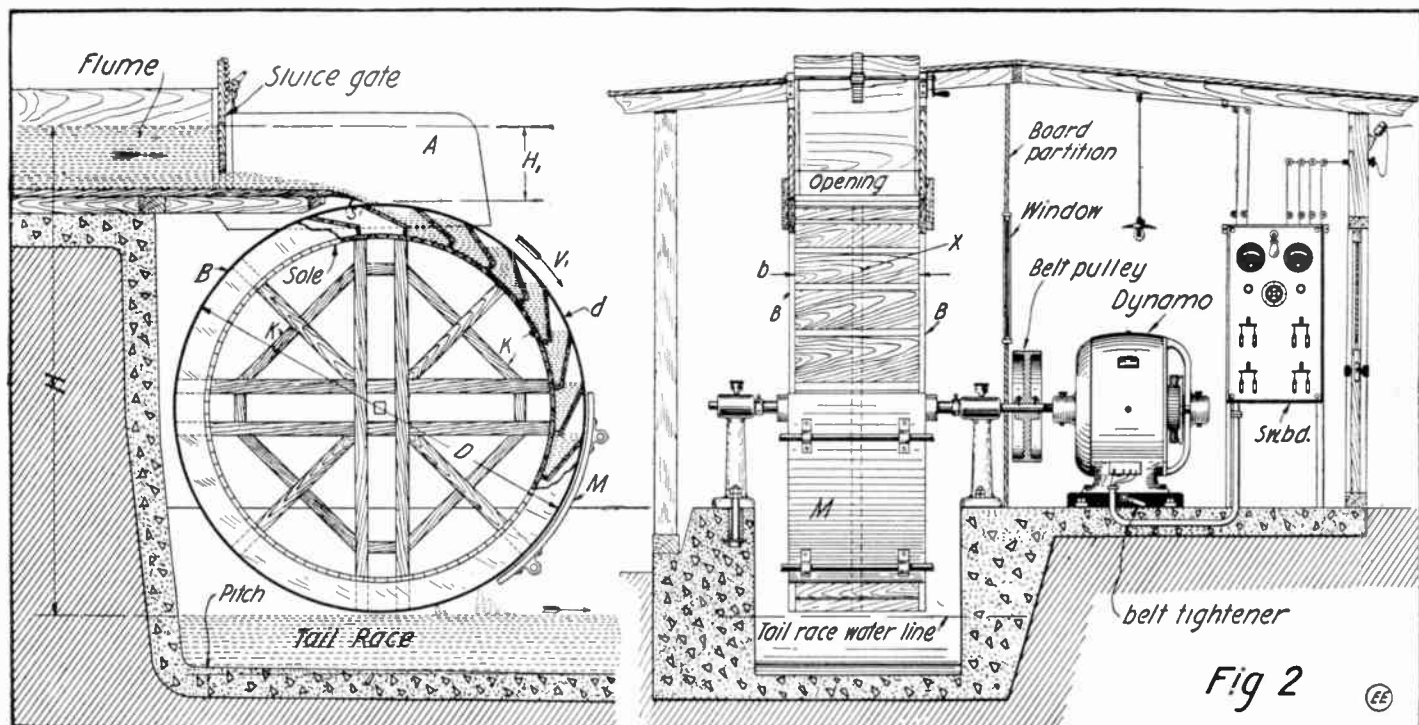
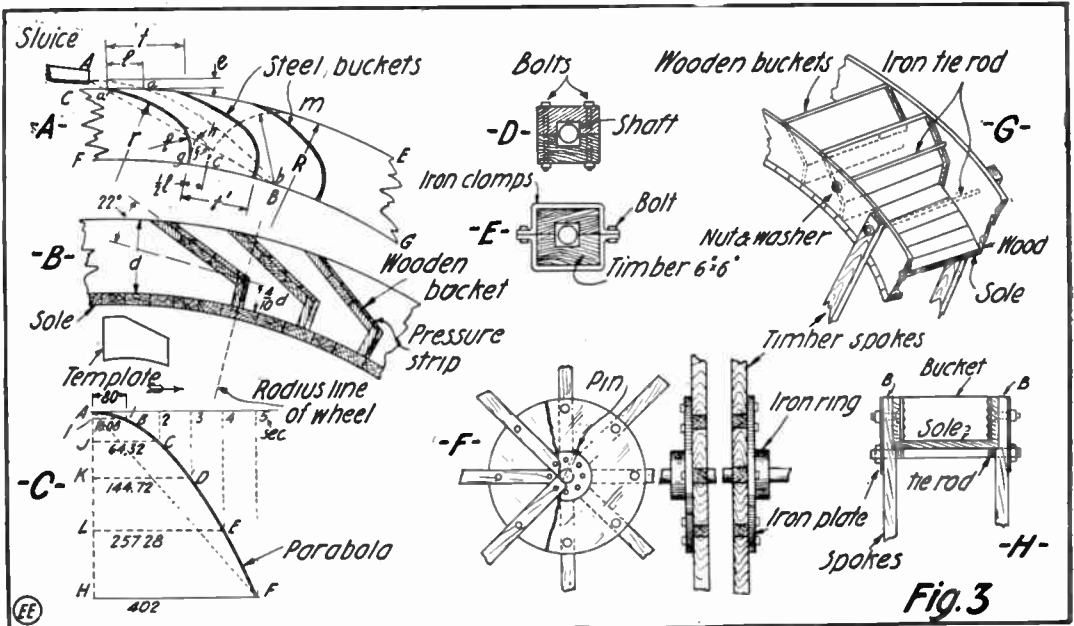

Fig. 2. General Arrangement of an Over-Shot Wooden Bucket Water Wheel, Including Suggestion for Dynamo and Switch-Board House.
Fig. 3. Details for Laying Out Iron and Wooden Buckets of Water Wheel. Also How Spokes and Axle May be Arranged in a Substantial Manner.
Next, from sheet brass $\frac{1}{8}$ inch thick cut a circular disc $1\frac{1}{2}$ inches in diameter. This is for the top of the electroscope T. (Fig. 2.) The edges should be very carefully filed off, rounded and polished, so that
to the zincs serve to lift them out of the jars (Fig. 2). So that the two or more rods, C, may turn at the same time, pieces of friction tape are used for the belts, as indicated in Fig. 3. If the tape is very sticky the zincs will stay raised without a weight, but if the zinc elements will not stay up alone a clamp or catch may be attached to one of the rods. A small handle can be attached to one of the drums very easily. If five of these cells are connected in series they will work well on coils up to one inch: for larger size coils a few more cells will be required, and they should be connected up as in Fig. 4. It is understood that the carbons of the former batteries are used in these cells.
2. Tap Lever.—Material, bolt, nut and nail. Drill hole in end A, then slit with saw. Run nut C back on bolt. Insert tap and tighten nut C. (Fig. 2.)
3. Key-hole Saw.—Use broken saws, brass pipe and 2¼-inch 8-32 machine screws. Flatten end of pipe in vise. Drill and tap this for the machine screws. Insert saw which has been tapped for the screws and tighten the screws. (Fig. 3.)